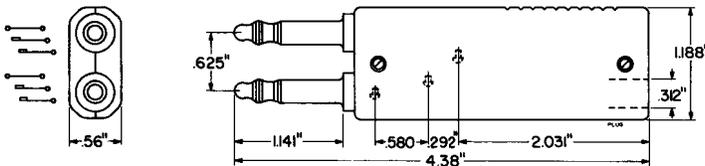

Fig. 6—430A Plug
2.06 430A: The 430A (Fig. 6) is a twin, 3-conductor plug with a black shell of insulating material. The 430A plug is designed to be used with the 505A- or similar-type jacks and on the L3 Carrier Terminal Equipment.